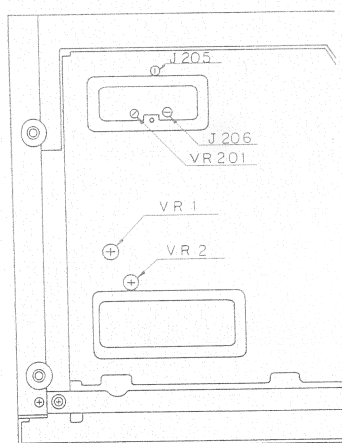

Fig. 18
- (1) Set digital volt meter to DC, 20V range, and connect its  $\oplus$  terminal to J205 and  $\ominus$  terminal to J206. (See Fig. 18)
### 4). Adjustment of Turntable Speed (See Fig. 18)
- (1) Put a record disc on the turntable platter and then put strobe sheet on a record disc. Move the tonearm by (<<) button up to the position where the turntable platter starts rotation.
- (2) Adjust speed by VR1 for 45 rpm, or by VR2 for 33-1/3 rpm to see strobe patterns come to a standstill. (See Fig. 18 and 21)